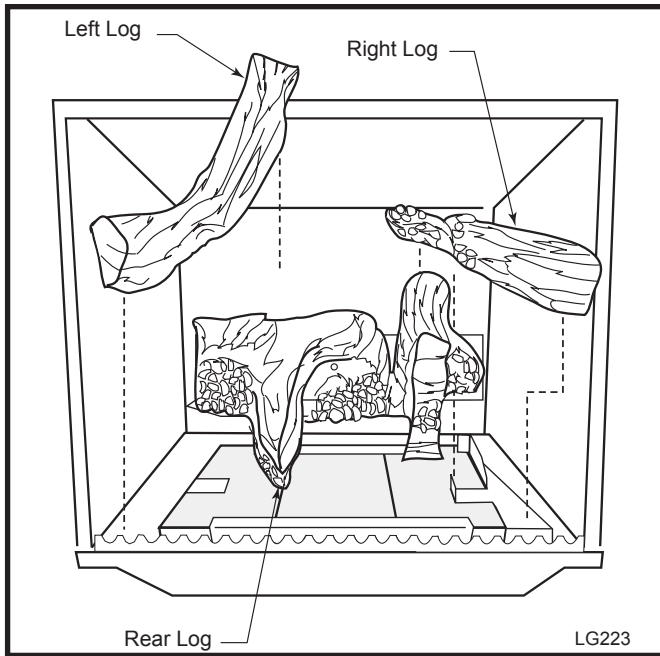

Fig. 15 Install rear, left and right logs.
2. Install the rear log by placing it on the sheet metal shelf at the back of the firebox. (Fig. 15) The log should touch the back wall of the firebox and be centered.
3. Install the right log by placing it on the sheet metal bracket behind the grate with the right end of the log, "the thicker end", touching the grate and the right side the firebox. Swing the left end of the log "painted end", backward until it comes in contact with the branch on the rear log. Set the log down over the bent tab on the right. When the log is in place it rests on the tab mentioned earlier and the tip of it comes in contact with the branch on the rear log. (Fig. 15)